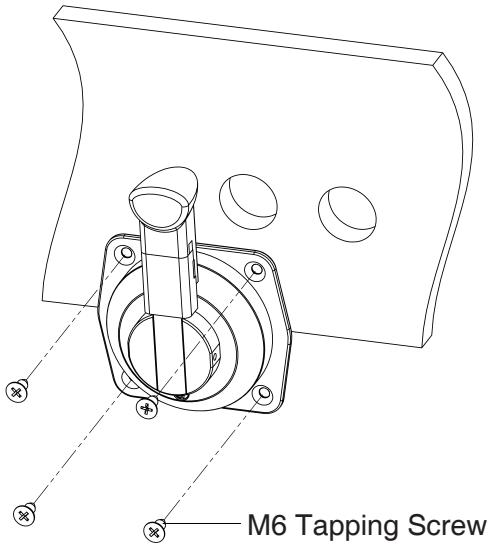

Figure 2-4
② Fix the throttle to the side of the boat referring to the figure 2-4.